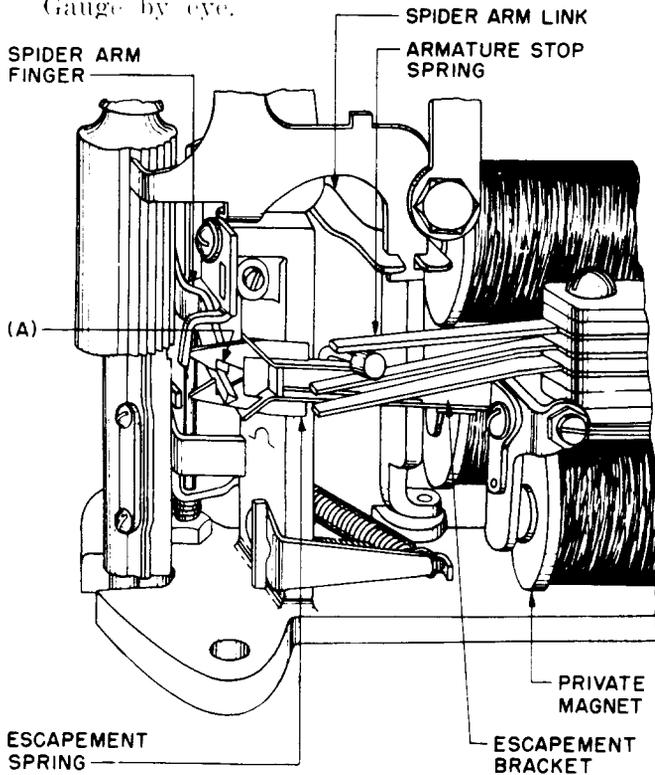

Fig. 8 — Position of Private Magnet
2.22 Private Magnet Position — Fig. 8 (A)